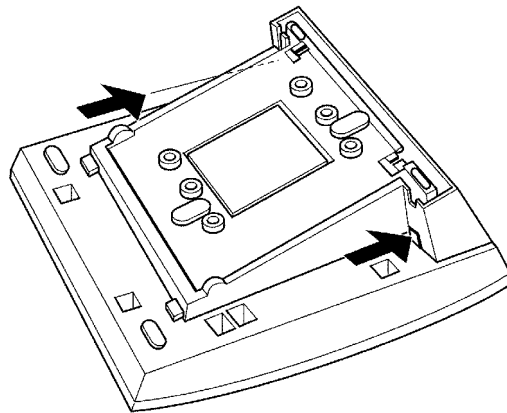

Figure 6-12: Locating the Adjustment Tabs on the Multiline Terminal
1. Turn the Multiline Terminal upside down and locate the tabs as shown in *Figure 6-12: Locating the Adjustment Tabs on the Multiline Terminal*.